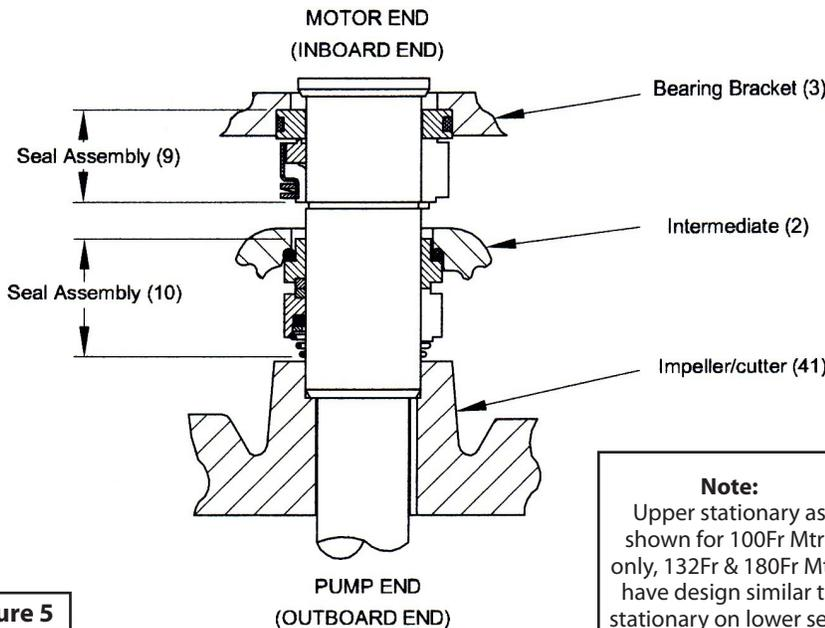

Figure 5
Remove retaining ring (10D), spring (10C) and rotating member (10B) from shaft (See Figure 5). Inspect seal for signs of uneven wear pattern on stationary, chips and scratches on either face. **DO NOT** interchange seal components, replace the entire shaft seal (10). If replacing seal, remove stationary (10A) from intermediate (2) by prying out with flat screw driver.